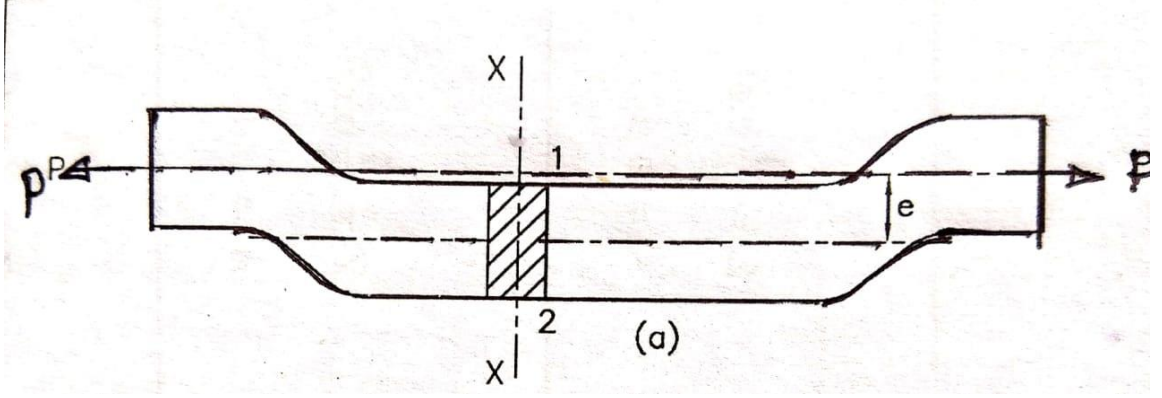

Figure: 1 [Q.3(c)]
- (c) Derive the basic equation of stress due to eccentric load for given figure.1 04